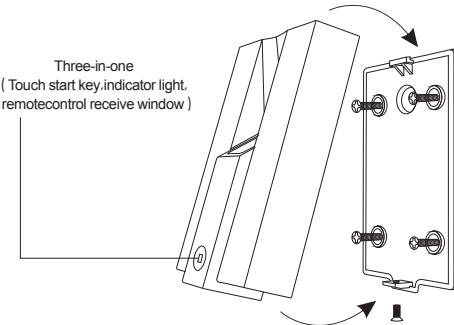

Figure 1 Installation diagram
- 2.1.1 Following the figure 1 and draw the installation and cable hole on the wall.
- 2.1.4 Fasten the front cover on the back shell with anti-vandal screw as in Figure 1.